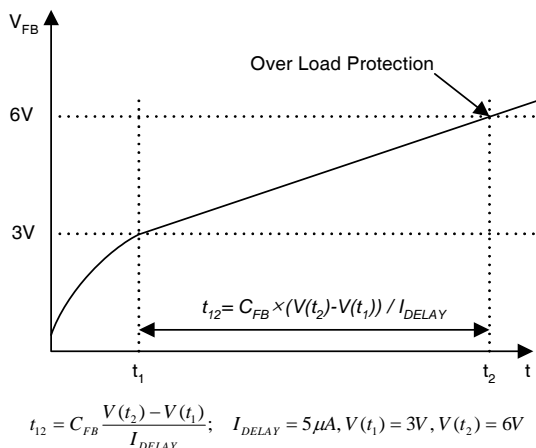

Figure 6. Over Load Protection (OLP)
4.1 Over Load Protection (OLP): Overload is defined as the load current exceeding a pre-set level due to an unexpected event. In this situation, the protection circuit should be activated in order to protect the SMPS. However, even when the SMPS is operating normally, the Over Load Protection (OLP) circuit can be activated during the load transition. In order to avoid this undesired operation, the OLP circuit is designed to be activated after a specified time to determine whether it is a transient situation or an overload situation. In conjunction with the I_{pk} current limit pin (if used) the current mode feedback path would limit the current in the Sense FET when the maximum PWM duty cycle is attained. If the output consumes more than this maximum power, the output voltage (V_o) decreases below its nominal voltage. This reduces the current through the optocoupler LED, which also reduces the optocoupler transistor current, thus increasing the feedback voltage (V_{FB}). If V_{FB} exceeds 3V, the feedback input diode is blocked and the 5 μ A current source (I_{DELAY}) starts to slowly charge C_{fb} up to V_{cc} . In this condition, V_{FB} increases until it reaches 6V, when the switching operation is terminated as shown in Figure 6. The shutdown delay time is the time required to charge C_{fb} from 3V to 6V with 5 μ A current source.